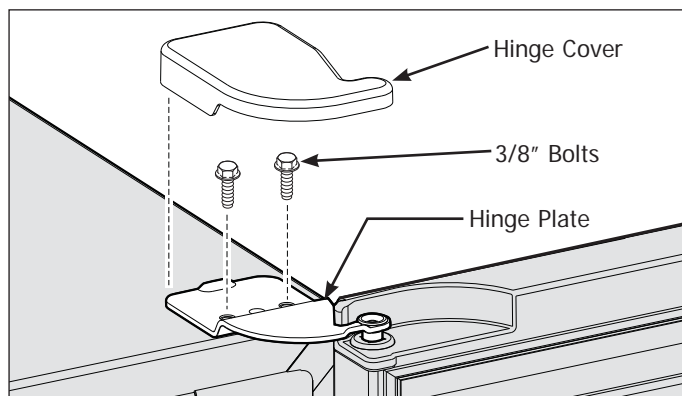

Figure 2-28. Top Hinge Removal
3. Lift plastic cover off upper hinge assembly. (See Figure 2-28)